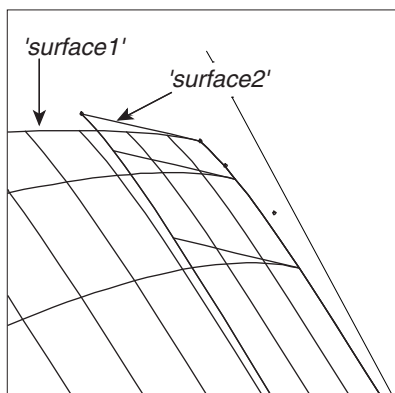

Fig. 17 Lat 1.7, Lon -52, Tilt 59.5
- 5 Click on point 'xpt17',  and rotate the model. With the two surfaces end-on you should be able to see that 'surface1' ends tangent to the new surface (Fig. 17).